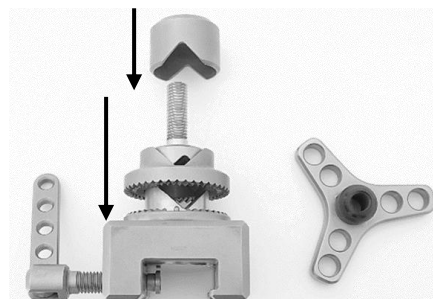

Fig. 3
As shown in Figure 3, place the lower part of the clamping jaw (3) on the base (4), then fit the upper part of the clamping jaw (2) over the threaded stud of the base (4).